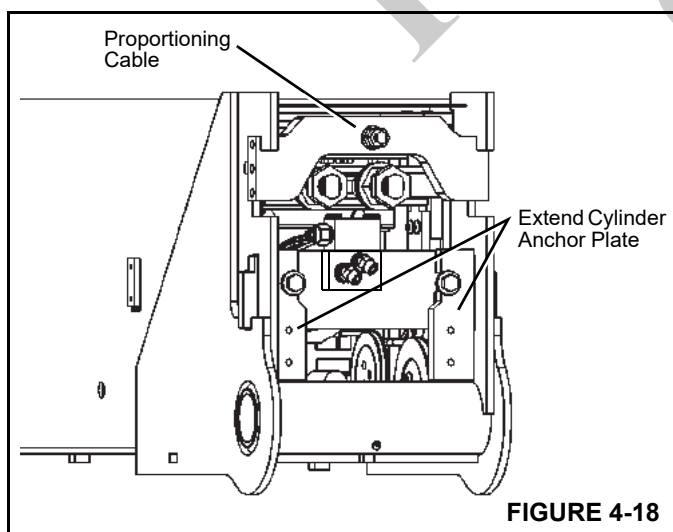

FIGURE 4-18
7. Thread the proportioning cable through the anchor plate and install the anchor plate (Figure 4-18) in the following order: